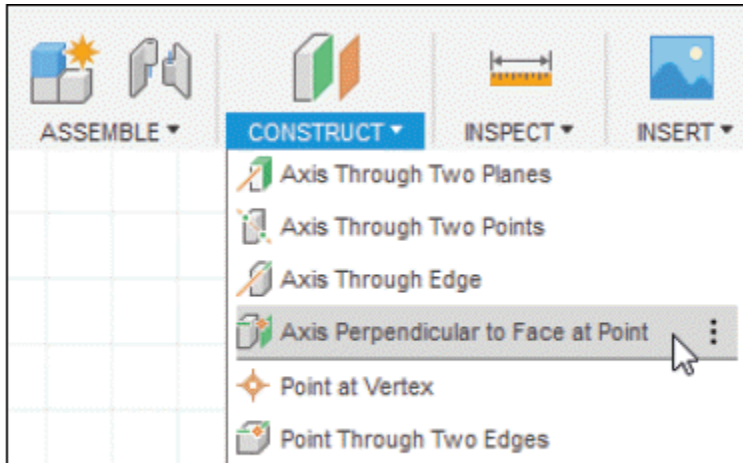
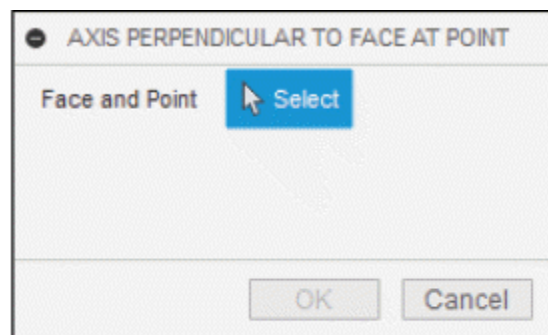

Figure-118. Axis Perpendicular to Face at Point tool
Figure-119. AXIS PERPENDICULAR TO FACE AT POINT dialog box
- Click on the **Axis Perpendicular to Face at Point** tool of **CONSTRUCT** drop-down from **Toolbar**; refer to Figure-118. The tool will be activated and **AXIS PERPENDICULAR TO FACE AT POINT** dialog box will be displayed; refer to Figure-119.